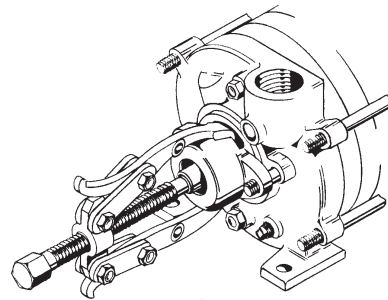

Figure 4-1
- 3. The bearing arm (#3) may now be removed. A gear puller may be necessary. (refer to figure 4-1) The outboard ball bearing (#24) should now be removed. A gear puller will need to be used for this operation. If the bearing can be removed too easily, a worn bearing surface may be indicated. Replace the shaft and bearing as necessary before reassembly.
since the bearing (#24) is held in the bearing arm by means of a snap ring (#4). Removal of the bearing arm will bring the bearing along with it.(see figure 4-1)